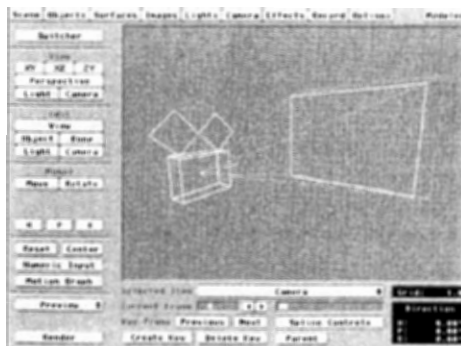

Figure 1: By following a few simple steps, the screen object can be positioned perfectly within the camera's view.
- Next, enter the **Camera** menu and note the camera **Zoom Factor** (the default is 3.2). Enter that value as the screen object's Z position and make a keyframe for the screen by hitting the return key twice. Presto! Our screen is now positioned so that it will precisely fit the boundaries of our camera view (Figure 1).